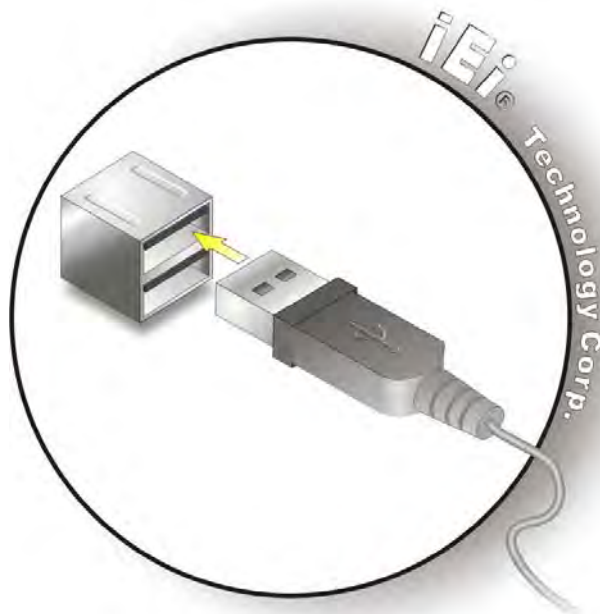

Figure 4-6: USB Connector
- Step 1: **Insert a USB Series "A" plug.** Insert the USB Series "A" plug of a device into the USB Series "A" receptacle on the external peripheral interface. See **Figure 4-6**.